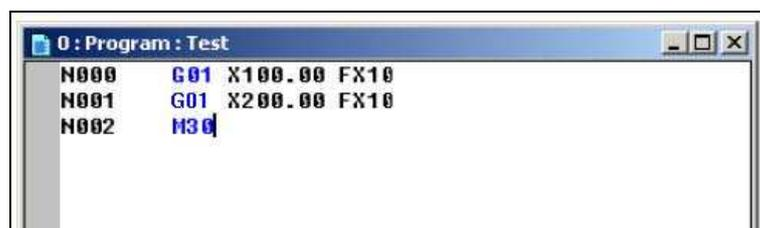

Fig. 3.3. Program example
- Type your own records in the **Program** window similarly to those shown in Fig. 3.3.
For example, the first record in Fig. 3.3 calls the motion at 10 % of the maximal speed to the position  $X = 100$  mm. The second record calls the motion at the same speed to the position  $X = 200$  mm. The last record calls the program end with repeat. Here,